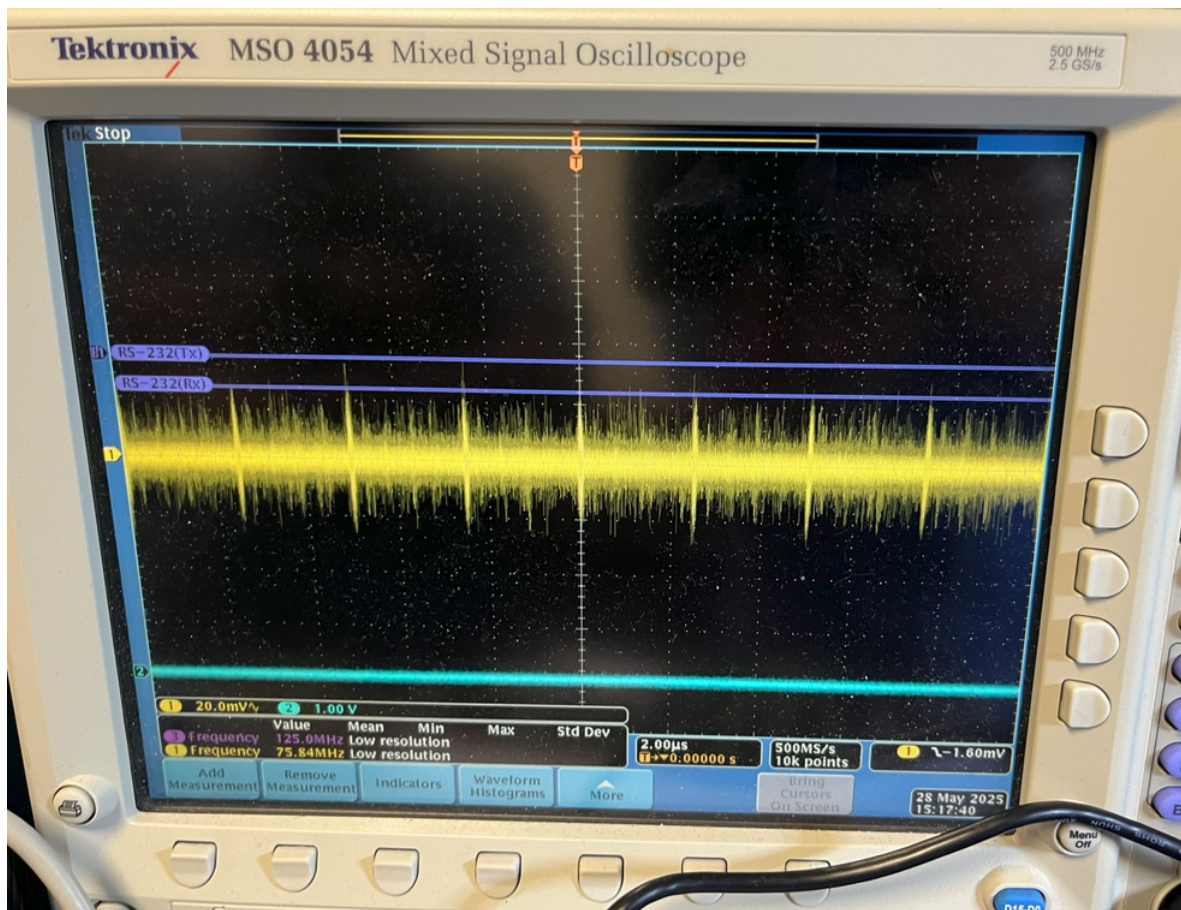

Figure 9: DC-DC converter switching waveform
- 2. **Switching Frequency** With the oscilloscope attached to the probe point, set to AC coupling, 20mV scale, and 2us timescale, observe the period of noise as shown in Figure 9. **Note:** Do not rely on the oscilloscope frequency measurement function, as it is likely to be confused by the low resolution of the pulses. **Acceptance criteria:** period 1.0–1.1 μ s (frequency 917kHz – 1MHz).